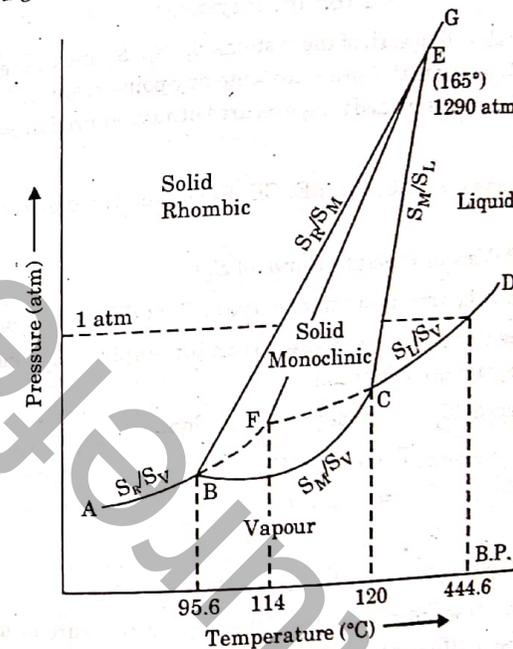

Fig. 4.26.1. Sulphur system.
- The number of phases at any instant depends upon the temperature-pressure conditions at that instant. The P-T diagram of sulphur system showing various equilibriums is given in Fig. 4.26.1.